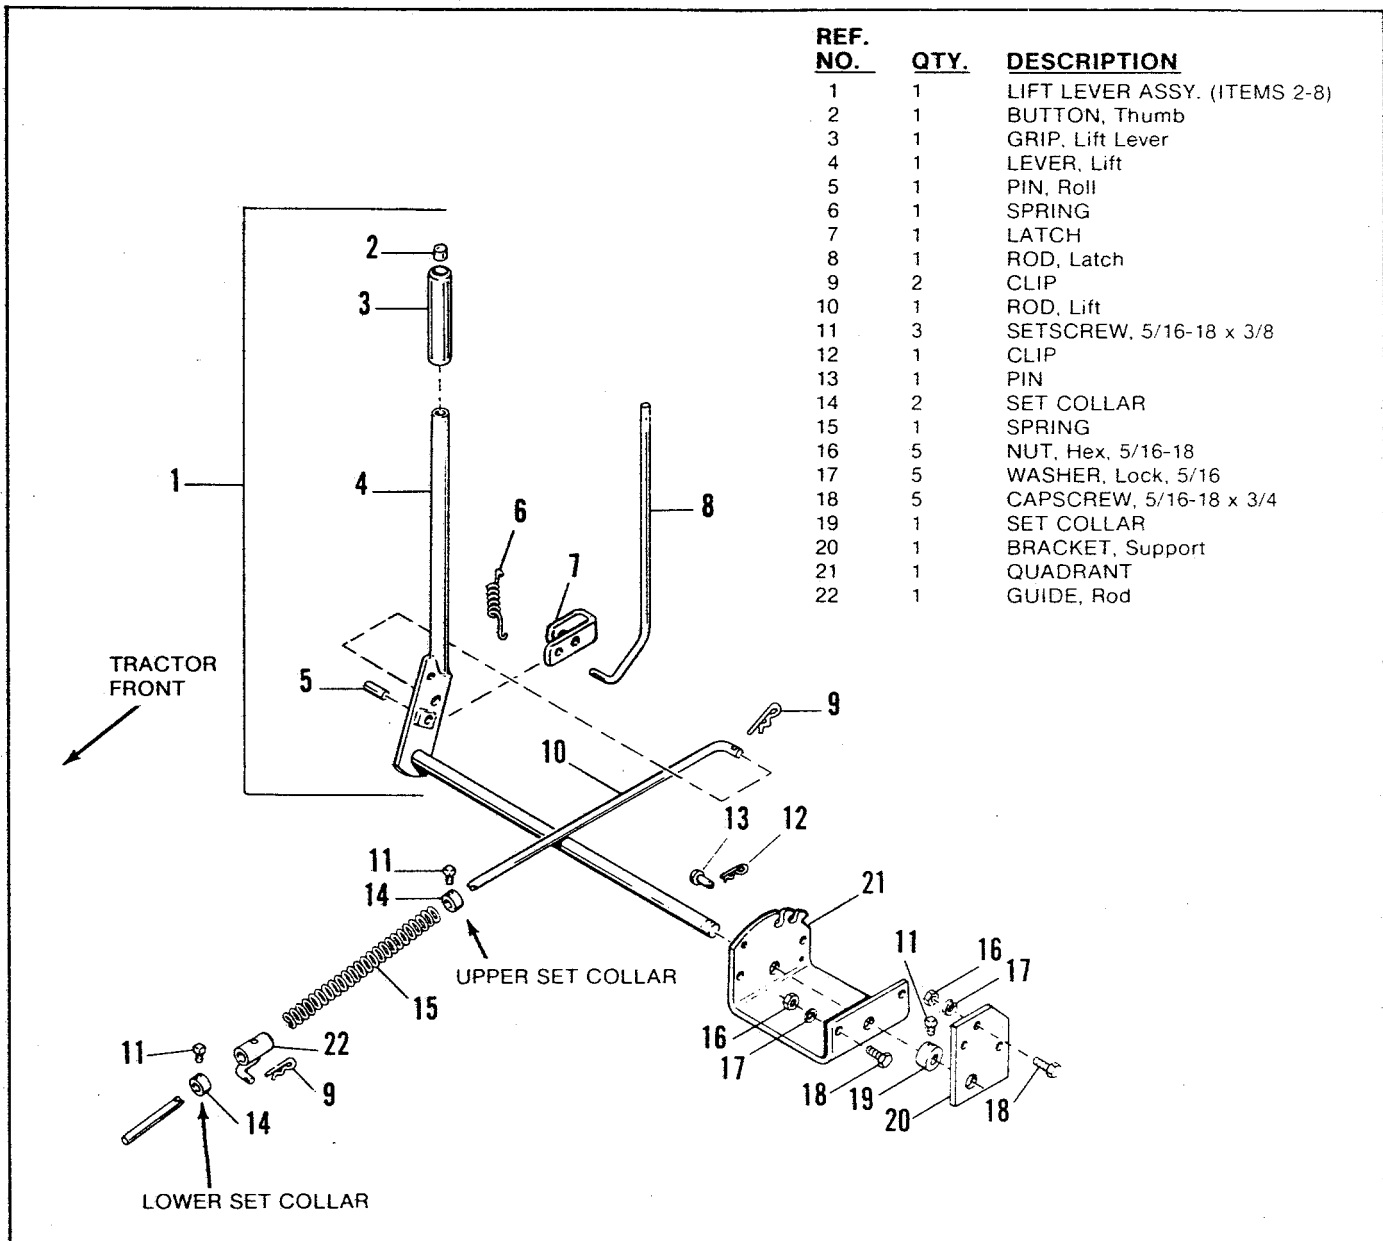
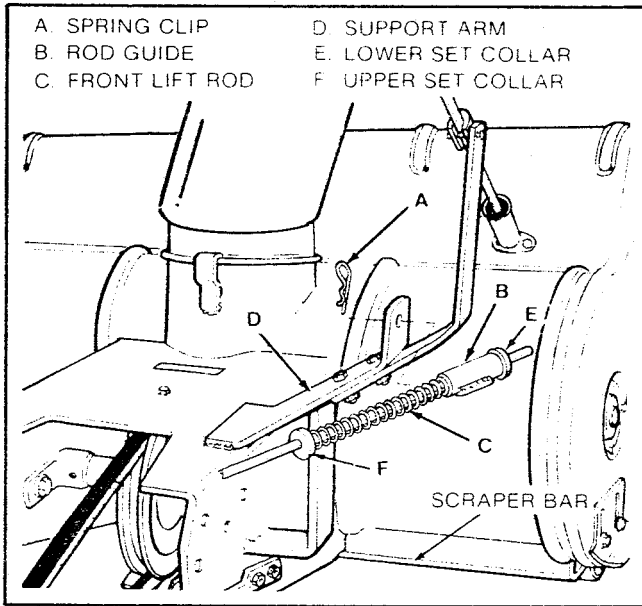
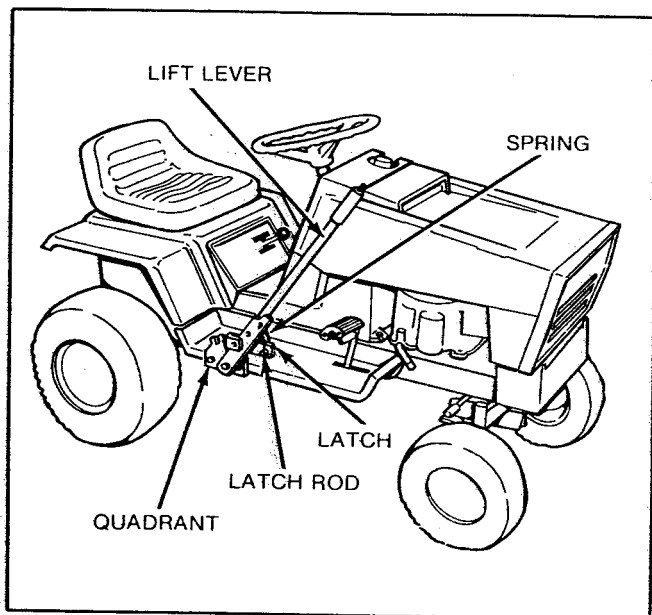
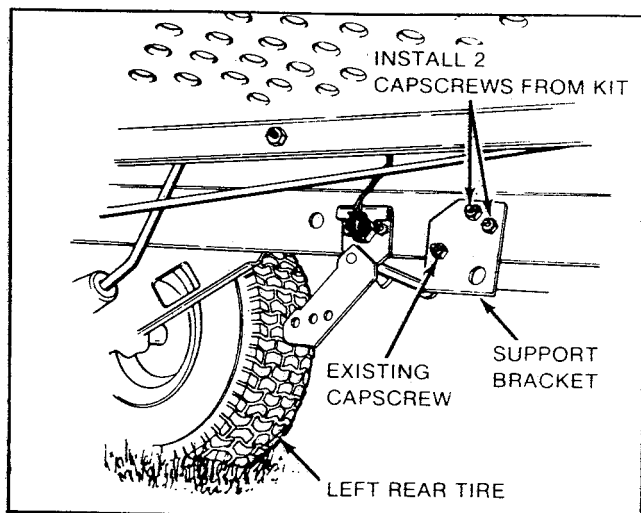

Figure 1. Lift Lever Kit, Exploded View
Figure 5. Attach Lift Rod To Snow Thrower
Figure 2. Lift Lever Kit (Lift Rod Not Shown)
Figure 3. Support Bracket, Installed
In these instructions, "left" and "right" are referred to as seen from operators position on tractor seat. Refer to Figure 1 to identify kit components. Figure 2 shows the lift lever kit installed on tractor. To install the kit, proceed as follows.
1. Install the two set collars (14, Figure 1), rod guide (22), and spring (15) on lift rod.
2. Insert the prong on the rod guide (22) thru the support bracket as shown in Figure 5. Place upper set collar against spring. Tighten both setscrews (14).
1. Fully lower the snow thrower. The latch (7, Figure 1) should be in most forward notch.
2. Check the gap between the rod guide and the lower set collar (Figure 5). The gap should be about 1 inch (25 mm). If not, loosen set screw, move set collar, and retighten screw.
3. Fully raise the snow thrower. The latch (7, Figure 1) should be in rear notch. Check the gap between the scraper bar (Figure 5) and the ground. The gap should be 3-1/2 to 4 inches. If not, fully lower the snow thrower and adjust the set collar. Move the set collar up to increase gap or move set collar down to decrease gap. Fully raise the snow thrower and recheck gap.
1. Remove the set collar (19, Figure 1) and support bracket (20) from the lift lever shaft.
2. Install the support bracket to the inside of the left frame as shown in Figure 3. To install the bracket, remove the nut and lockwasher from the existing capscREW and insert the support bracket on the capscREW. Replace nut and lockwasher finger tight. Install two capscREWS (18, Figure 1) lockwashers (17) and nuts (16) thru frame and remaining two holes. See Figure 3.
3. Place the quadrant (21, Figure 1) and set collar (19) on the shaft of the lift lever (4) as shown in Figure 1. Do not tighten setscrew yet.
Before proceeding with the next step, arrange the following parts on right-hand side of tractor: the lift lever assembly (1, Figure 1), three capscREWS (18), three lockwashers (17), and three nuts (16).
6. After all hardware is in place, tighten all nuts. Tighten the three support bracket capscREWS (Figure 3).
8. Check operation of the lift lever. The latch (7, Figure 1) fits inside the quadrant teeth to hold the lift lever in place. See Figure 2. When the thumb button is pressed, the latch is released and allows the lift lever to be moved to a different position.
9. Attach the lift rod (10) to the lift lever with clip (9).
10. Attach the set collar (22) to the bracket on the snow thrower with clip (9).